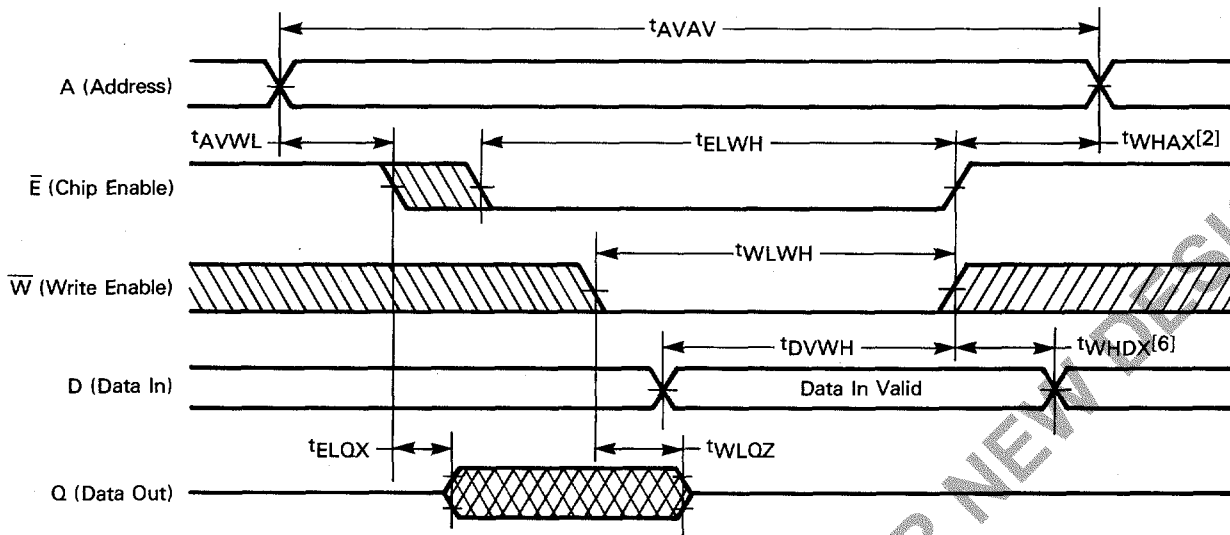

FIGURE 1 — OUTPUT LOAD
Output Load See Figure 1
- Transition is measured ± 200 mV from the steady state output voltage with the output loading specified in Figure 1.